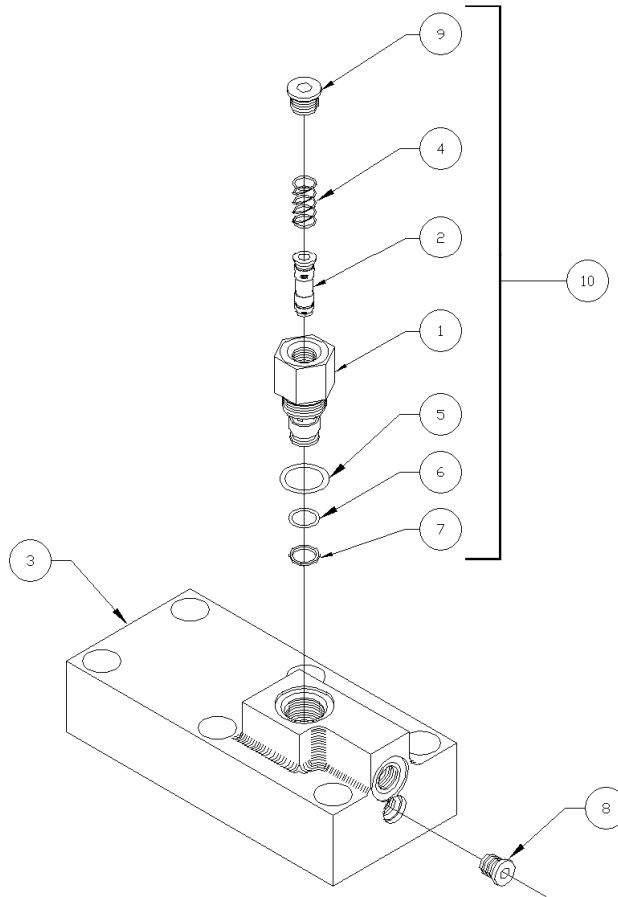

figure S-4
Before starting the assembly of the Slowdown, refer to the exploded parts drawing and parts list ( fig. S-4 found at the end of these instructions ) to familiarize yourself with the individual components. Prepare a clean surface in an area free from blowing dust and contaminants in which to assemble the Slowdown. Be sure that all parts are clean and dry before starting assembly.
- Coat the o-rings on the plunger housing ( 1 ) ( fig. S-3 ) and the o-ring on the o-ring plug ( 8 ) with STP Oil Treatment. Screw the plunger housing ( 1 ) into the top of the rack cap ( 3 ) ( fig. S-4 ) and torque to 30 in-lb. Screw the o-ring plug ( 8 ) into the side of the rack cap ( 3 ) in the bottom port and tighten.